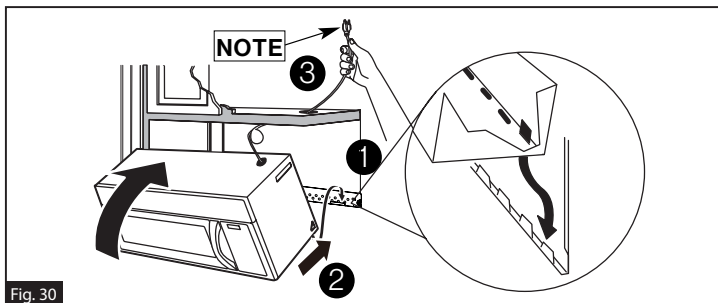

Fig. 30
1. Lift microwave, tilt it forward, and hook slots at back bottom edge onto four lower tabs of mounting plate. Rotate front of oven up against cabinet bottom. (Fig. 30)
NOTE: When mounting the microwave oven, thread the power cord through the hole in bottom of top cabinet. Keep it tight throughout Steps 1–3. Do not pinch cord or lift oven by pulling cord. (Fig. 30)